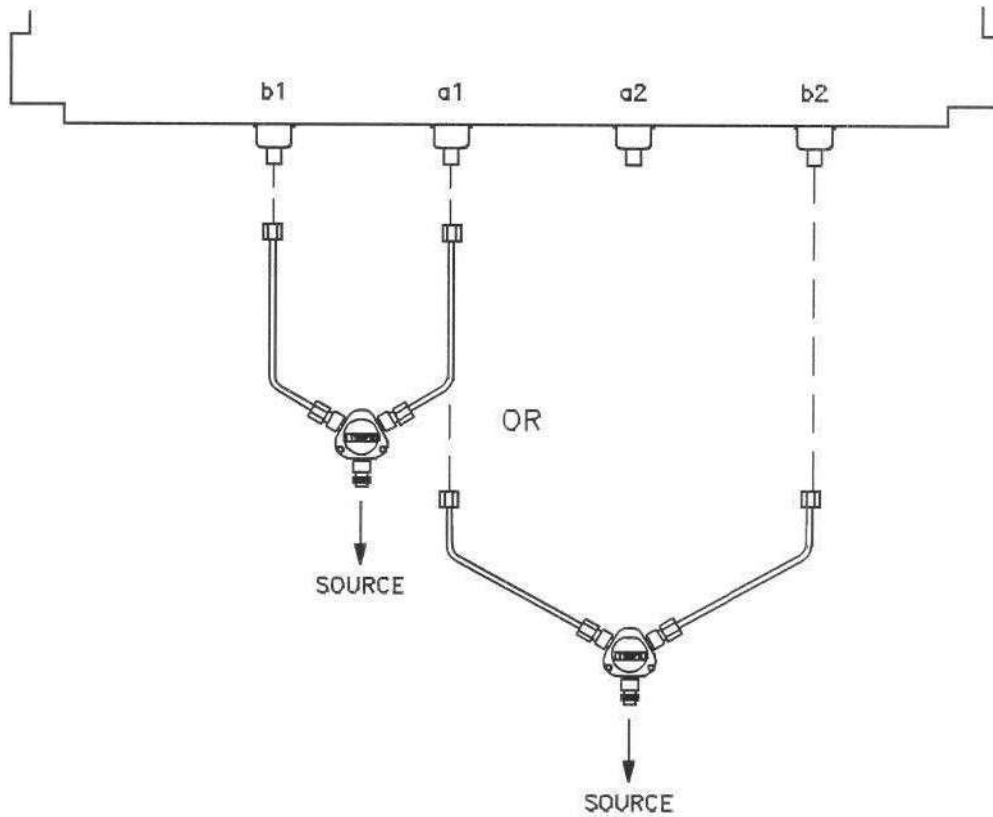

Figure 3-3. Hardware Configuration for Operator's Check
- Loosely connect the RF source cable to the power splitter as shown in Figure 3-3 below. Connect the other end of the RF source cable to the output of the source. Rotate the semi-rigid cables to the required position for connection to ports a1 and b1. Tighten all connections.